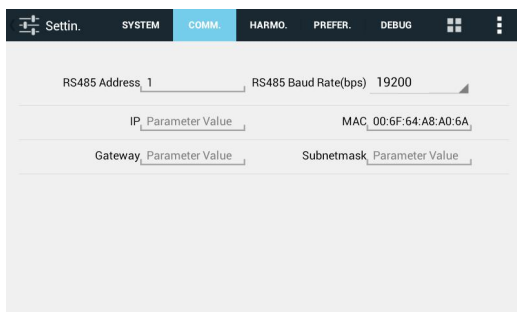

Figure 6-10 Interface of communication setup
- ◆ Click “COMM.” button in the top of Figure 6-9 to enter the interface of communication setup, as shown in Figure 6-10;